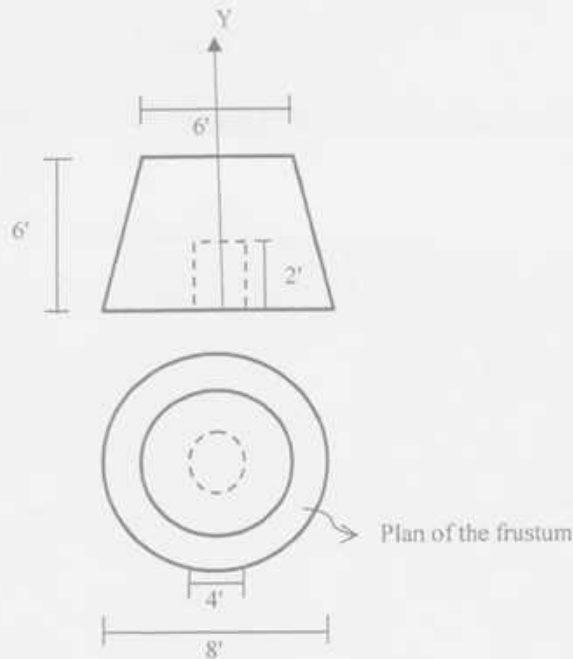

Figure 2
2. Determine the mass moment of inertia of the composite body shown in figure 2 about Y axis. It is given that unit weight of the material is 150 lb/ft^3 .